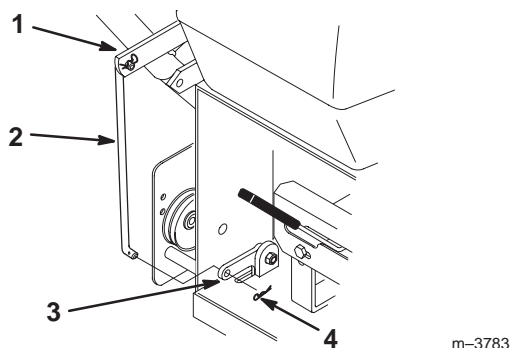

Figure 8
1. Rotate the blade control (PTO) lever vertically away from the left handle so that the blade control (PTO) rod drops down (Fig. 8).
2. Remove the hairpin cotter from the bottom end of the blade control (PTO) rod (Fig. 8).
3. Secure the blade control (PTO) rod through the hole in the bell crank with the hairpin coppers (Fig. 8).